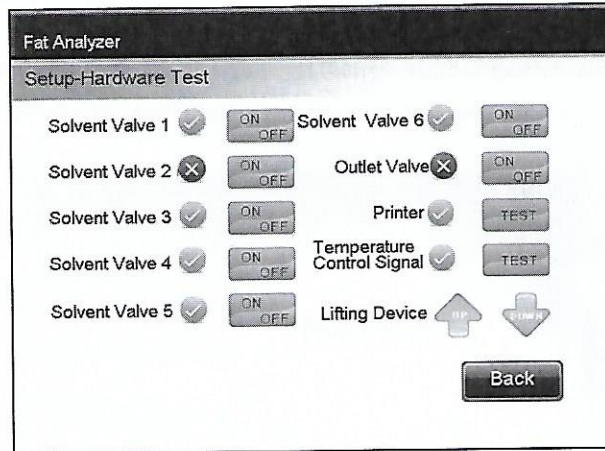

Fig.19
4.2.4.1 Choose **Hardware Test**, the interface appears, as shown in Fig.19. The function of this item, which is operated by relevant engineers to test the instrument, can be ignored by users. Users can click **ON/OFF** after each item to check whether corresponding function is normal or not. And a sound can be heard when clicking **ON/OFF** of solvent valve if it is functioning, otherwise, it is not.